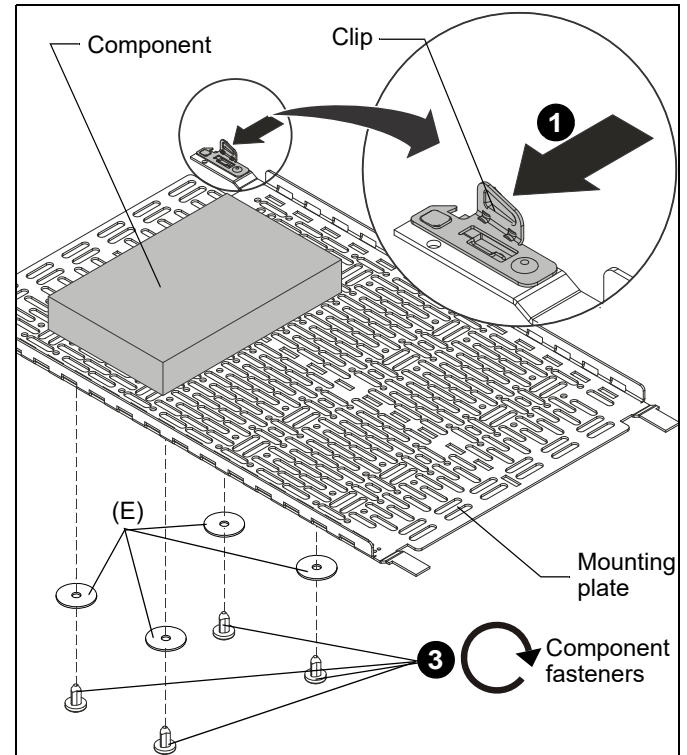

Figure 6
1. Remove mounting plate from storage panel by pressing inward on the clip located at the bottom of the storage panel. (See Figure 6)
2. Place component(s) on mounting plate and position in the desired location with the hole pattern in mounting plate best aligned to component mounting holes. (See Figure 6)
3. Using the fasteners provided with the component and the washers (E), attach the component to the mounting plate. (See Figure 6)